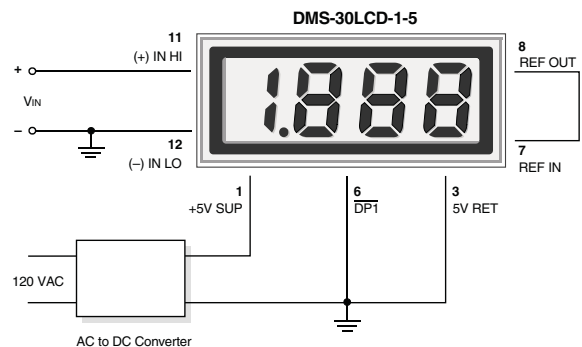

Figure 2. Single-Ended Input Configuration (5V-Powered Models)
- Single-Ended Input Configurations:** True single-ended measurements can only be made with 5V-powered meters. The circuit of Figure 2 avoids problems normally associated with ground-loop currents. Separate ground runs should be used for 5V RETURN (pin 3) and (-) INPUT LO (pin 12).